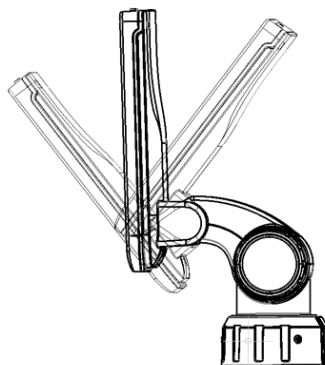

Figure 3.10
7. Slowly tilt the angle of the LCD screen, as shown in Figure 3.10. Confirm that no abnormalities, such as difficulty in moving occurred during the movement.